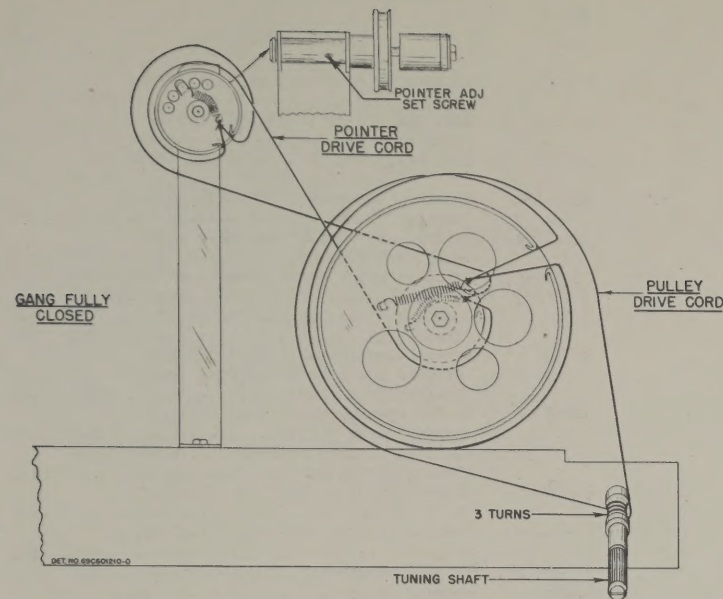

FIGURE 2.
5. From the back of the cabinet, loosen the pointer adjustment setscrew (see Figure 2), and pull the pointer and shaft assembly from the chassis. **CAUTION:** Do not remove the nut from the front of the pointer, as the detent ball and spring will fall out and may become lost.
2. From the back of the cabinet, loosen the pointer adjustment setscrew (see Figure 2). **CAUTION:** Do not remove the nut from the front of the pointer.